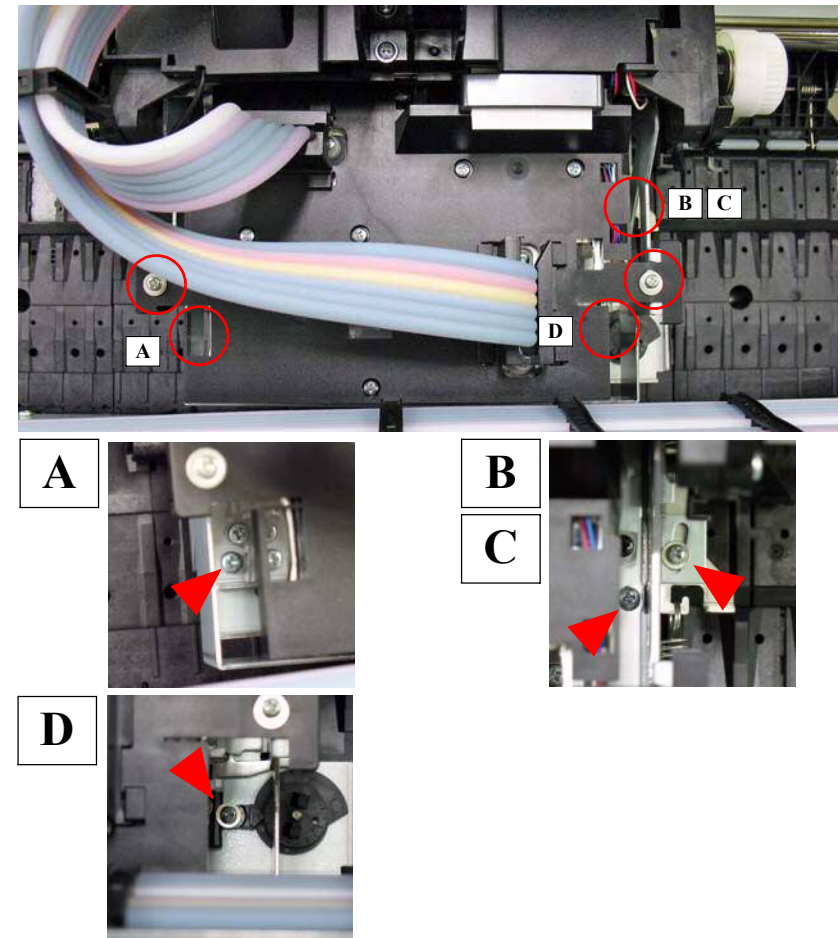

Figure 5-32. Adjustment Screws
8. Loosen the screws (x6) shown in Figure 5-32.